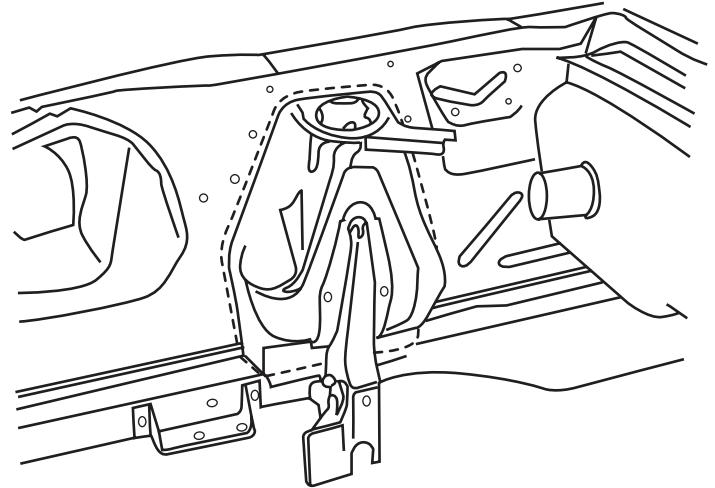

Figure 1
- 2 You will now need to remove all the suspension components and parts, and remove the existing shock towers. See figure 1 for the approximate cutting path you should use. The best cutting method would be to use a plasma cutter, but a saw or a torch can get the job done as well. Cut the towers away from the frame rails as well. When you're done, your frame rails should be bar and clean and ready for the next step- Trimming and boxing the rails.